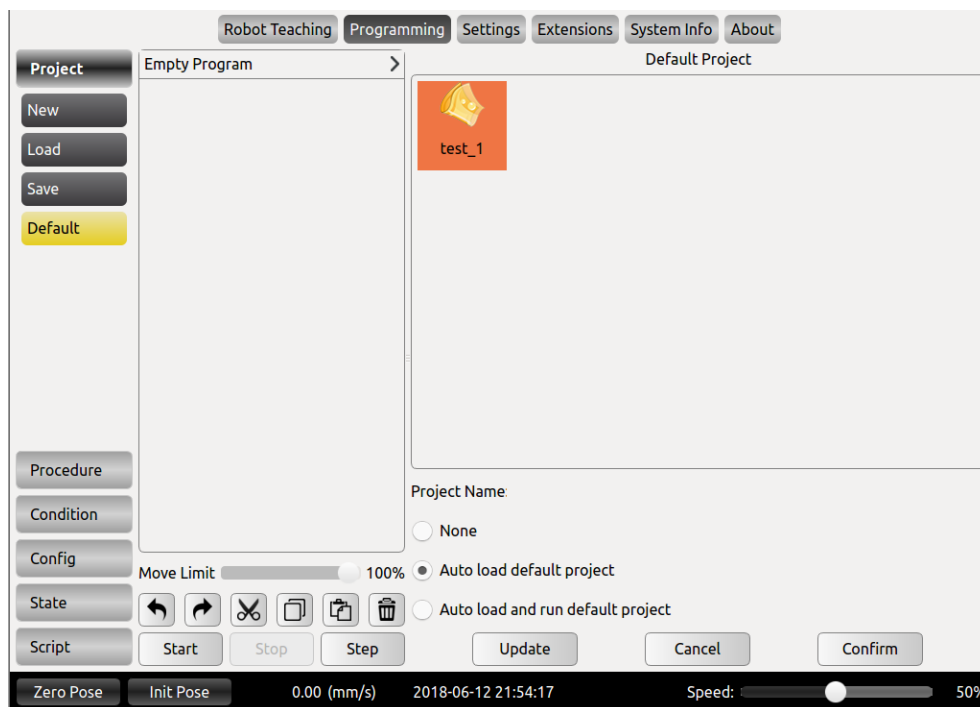

Figure 11-7 Default Project
- Manually move mode can be used when auto move is not suitable. As shown in figure 11.7, manipulator will hit working plane or barriers when moving from C to A under auto move. In this case, manually move can be used to move to safe point (like B) firstly, then move to the initial